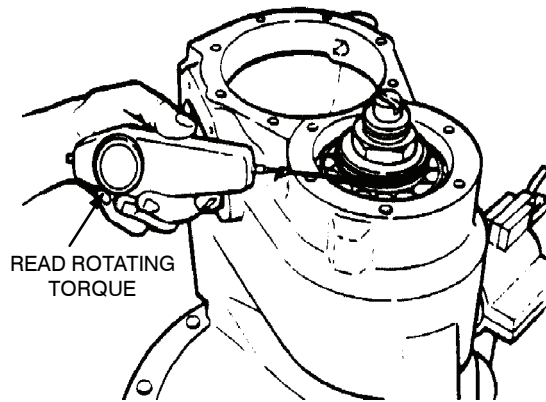

Figure 59.
- (2) Rotate drive pinion with torque wrench and observe reading on dial. Use rotating torque, not starting torque.
- (3) Correct bearing pre-load is 5–45 in. lb. for new bearings or 10–30 in. lb. for re-used bearings.
- (4) A second method of checking pre-load rotating torque is as follows:
- Next, calculate for radius of washer by measuring outer diameter of washer and dividing by two (2). Multiply the pound reading from scale by washer radius (in inches) to obtain inch-pound torque value. Refer to Figure 59.